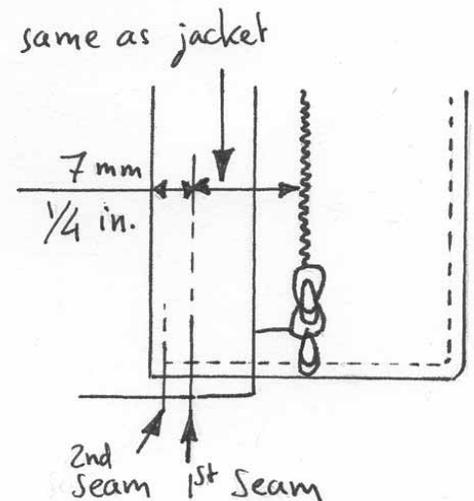

Figure 26
- B. Pin the single insert flap to the wrong side of the insert, on the right or left as required. The pins should be set 7 mm (1/4 in.) from the folded edge of the flap and at the same distance from the zipper's tooth track as was measured on the jacket (step A, above), as shown on **Figure 26**.
- B. Pin the insert's hook flap to the right side of the insert (as opposed to the wrong side), on the right or left, as required. The pins should be set 7 mm (1/4 in.) from the folded edge of the flap and at the same distance from the zipper's tooth track as was measured on the jacket in step A, as shown on **Figure 26**. If this would lead you to pin the flap across the seam line joining the right and left panels at the top, stop at the seam line.